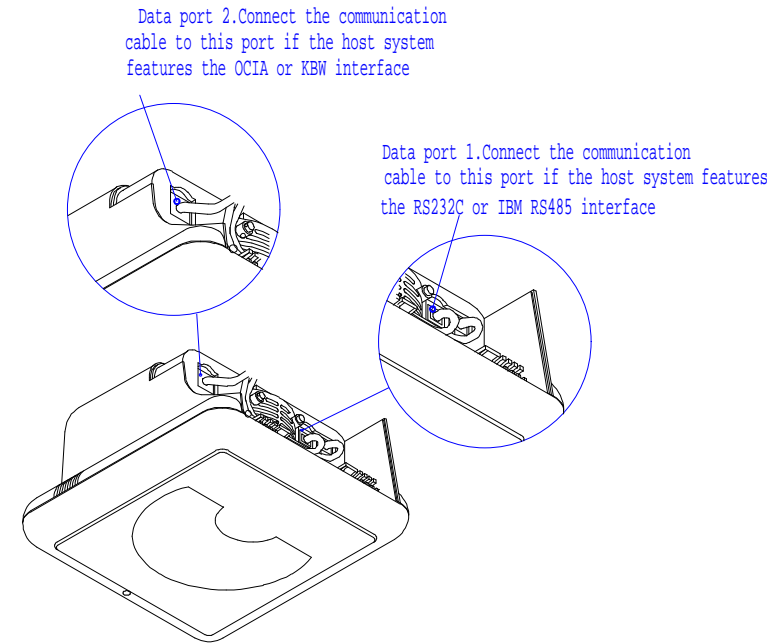

Figure 2.2
2. If the POS system is the RS-232C or IBM 485 interface, plug the communication cable with the 8 pin modular jack into Data port 1, or if the POS system interface is OCIA or Keyboard Wedge, plug the communication cable into Data port 2. Plug the other end of the cable into the appropriate serial port of your POS or computer. Use the ZEBEX universal power supply. Lead the cables through the scanner as illustrated in figure 2.2.
4. Plug the communication cable with the 8 pin modular jack in the appropriate Data port of the scanner. Refer to figure 2.2 for the Data port applicable to the interface used. Plug the other end of the cable into the appropriate serial communication port of the POS system.